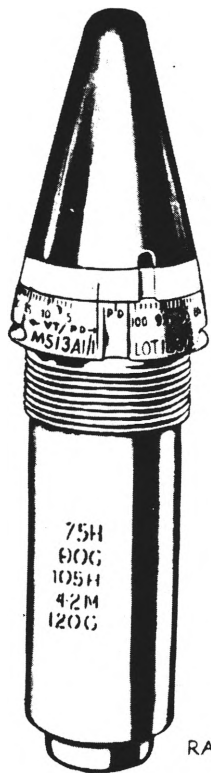

Figure 47. Fuze, proximity: M513A1 (T226E2).
*a. General.* This "adjustable delay arming" type of fuze (fig. 47) is provided for use for the engagement of terrestrial targets. The fuze may be identified by the markings thereon. The metal base is provided with a graduated time scale; time scale graduations are from 5 to 100 seconds. A movable time ring with register line is used to set the fuze to the appropriate time. A superquick element is mounted internally in the nose of the fuze. Since this fuze is for the engagement of terrestrial targets, no self-destruction element has been provided. The set time should usually be the same as the "time-to-target," to insure maximum time of unarmed flight of the proximity element. When set on 5 to 100 seconds the proximity element becomes armed approximately 3 seconds prior to the set time. The proximity element will function on proximity approach (at optimum distance) to any land or water mass. The impact and proximity circuits are armed independently. While proximity arming is a function of time setting, impact arming occurs independently at approximately 3 seconds; when set in the slot (notch) on "PD," the proximity portion is not activated and the fuze will function as a PD fuze. There is little hazard in firing these fuzes over friendly territory, except in the case of personnel or installations close to the target areas. If personnel are in the target area, proper consideration should be given to the instructions in (1) through (5) below.
- (1) Avoid firing at targets that are too close to friendly positions; the projectile should burst not closer than 350 yards from such positions.
- (2) If firing over crests or ridges, arming should be delayed until the projectile has passed the irregularity,